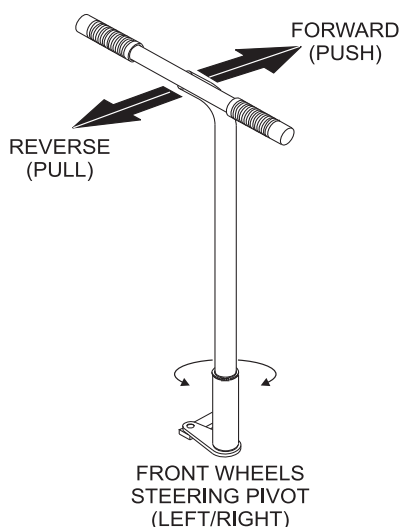

Figure 6. T-Handle (Directional Control)
1. Using the T-handle (Figure 6) place the GloBug on a ***firm level surface*** so that it will not slide or turn over.